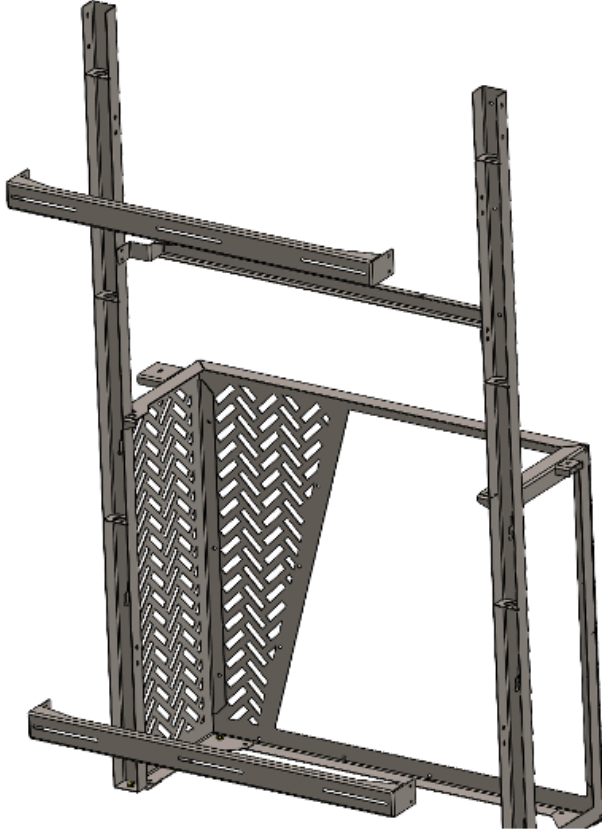

Figure 4
6. Attach two (2) 23025 cross pieces to rear of rack. (Figure 4) Use four (4) $\frac{1}{4}$ " Stainless Steel Cap head bolts, eight (8) stainless flat washers, and four (4) stainless nuts (50408-HW) per cross piece.